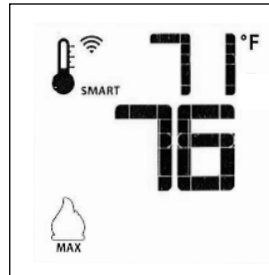

Figure 86. Smart Mode
- To activate this function, press the Thermostat Key until the word "SMART" appears to the right of the thermometer bulb icon. Fig. 86.